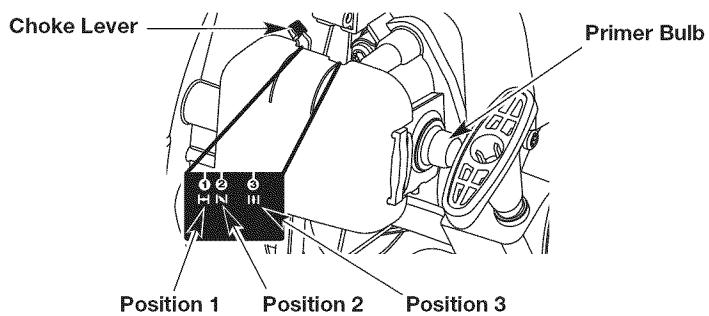

Fig. 8
3. Slowly press and release the primer bulb **10 times** (Fig. 8). If fuel cannot be seen in the primer bulb, press and release the primer bulb until fuel is visible.
4. Move the choke lever to **Position 1** (Fig. 8).
8. Move the choke lever to **Position 2** (Fig. 8).
11. Move the choke lever to **Position 3** (Fig. 8) and continue warming the engine for an additional 60 seconds. The unit may be used during this time.
- IF...** the engine hesitates, return the choke lever to **Position 2** (Fig. 8) and continue the warm-up.
9. Move the choke lever to **Position 2** (Fig. 8).
13. Move the choke lever to **Position 3** (Fig. 8) and continue warming the engine for an additional 60 seconds. The unit may be used during this time.